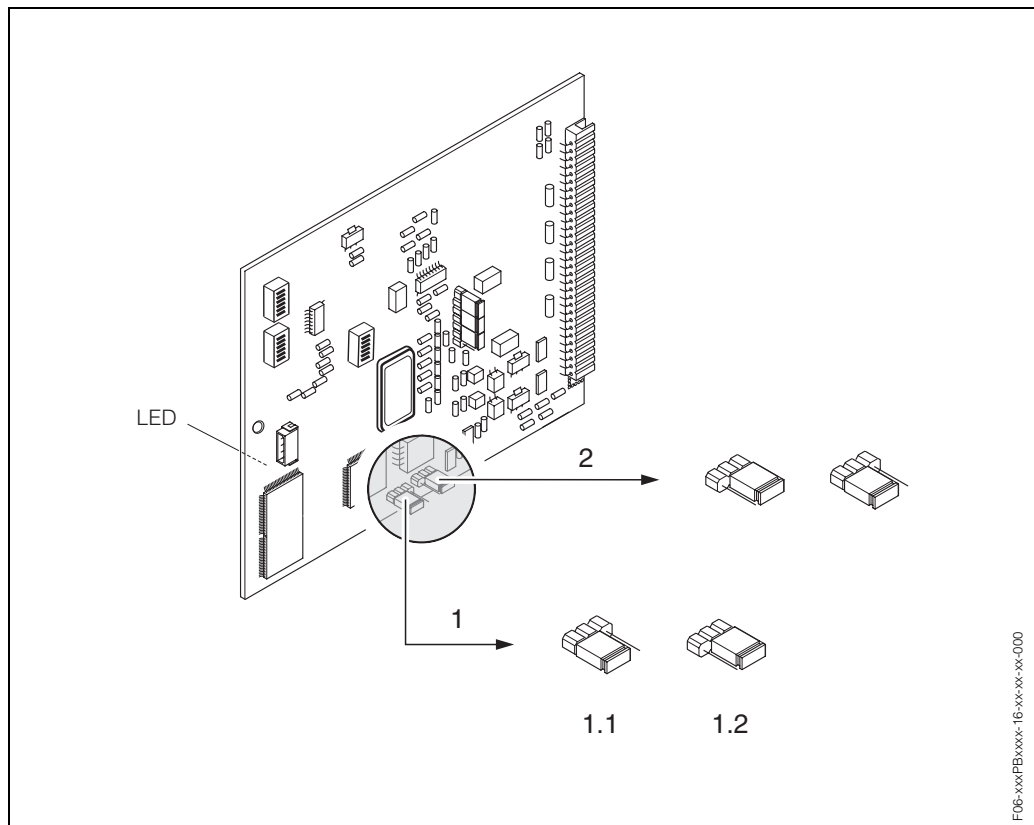

Fig. 63: Hardware configuration (I/O board)
3. Configure hardware write protection appropriately using the jumpers (Fig. 63).